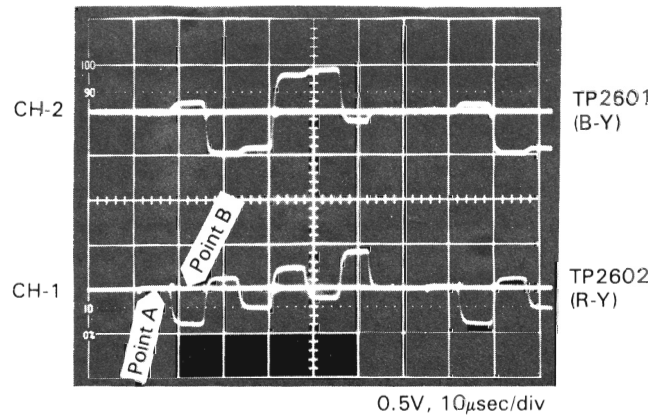

Figure 2-14
4. Adjust R2606 (Colour Level Adj.) so that the R-Y waveform becomes approximately 1 Vp-p. (Fig. 2-14)
4. Adjust R2631 (Burst Phase Adj.) with an oscilloscope so that cracking in point A of Fig. 2-14 is minimized.
4. Adjust R2619 (1H Gain Adj.) with an oscilloscope so that cracking in point B of Fig. 2-14 is minimized.
4. Adjust L2601 (1H Phase Adj.) with an oscilloscope for minimum overall blur of the R-Y waveform. (Fig. 2-14)
4. Repeat burst phase adjustment, 1H gain adjustment, and 1H phase adjustment with R2631, R2619, and L2601, until cracking and blur of the waveform are minimized. (Fig. 2-14)
4. Adjust R2606 (Colour Level Adj.) so that the R-Y waveform amplitude becomes 1 ± 0.04 Vp-p. (Fig. 2-14)